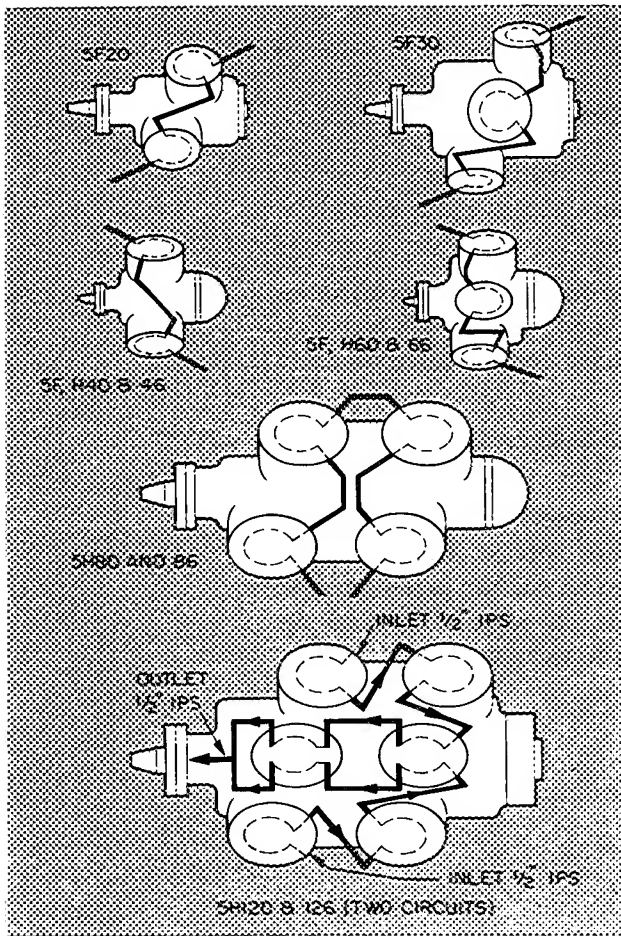

Fig. 16 - Schematic Piping for Water-Cooled Heads
**Cooled Heads** - When used, install water-cooled heads and piping as shown in Fig. 16.
5F20,30,40,60; 5H40,46,60,66,80 AND 86 compressors have one water circuit piped to flow in either direction. See Fig. 16.
5H120 AND 126 compressors have two parallel circuits with two 1/2-inch IPS water inlet connections and one 1/2-inch IPS water outlet connection. See Fig. 16.